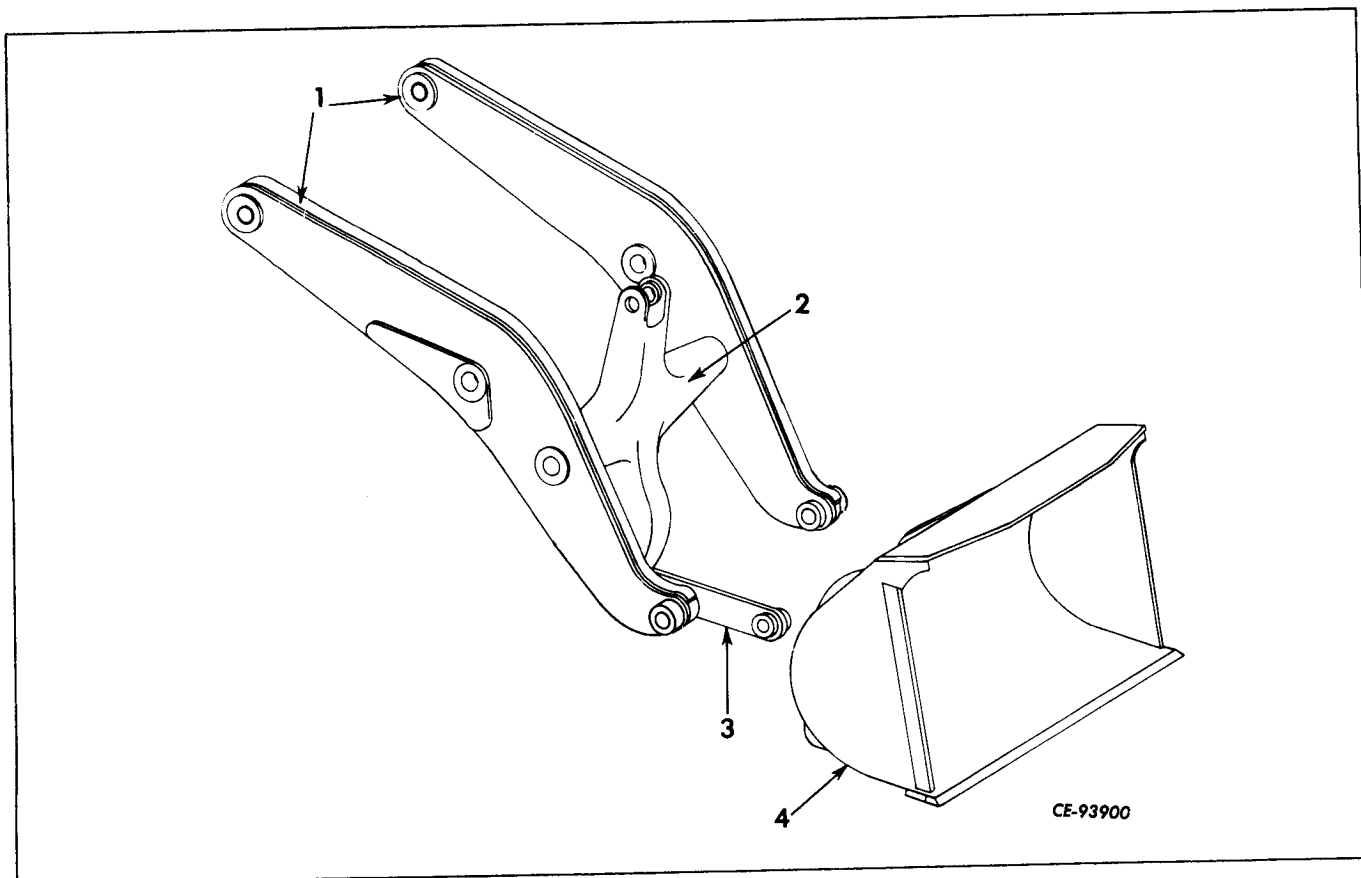

Figure 1-12
The boom arms (1, Fig. 1-12) are of welded box section construction. The bellcrank (2), joining the boom arms at its pivot point, is a one piece casting. The heavy bucket link transfers the